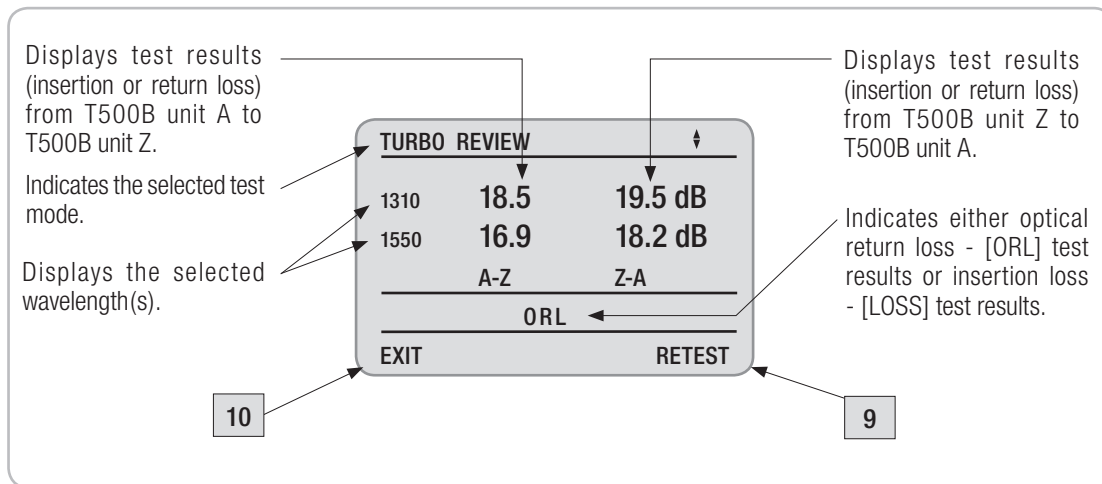

Figure 4-6. Reviewing Test Results.
- 7 From the [TEST COMPLETE] screen, press the [REVIEW] soft key to display the [TURBO REVIEW] screen (refer to Figure 4-6).